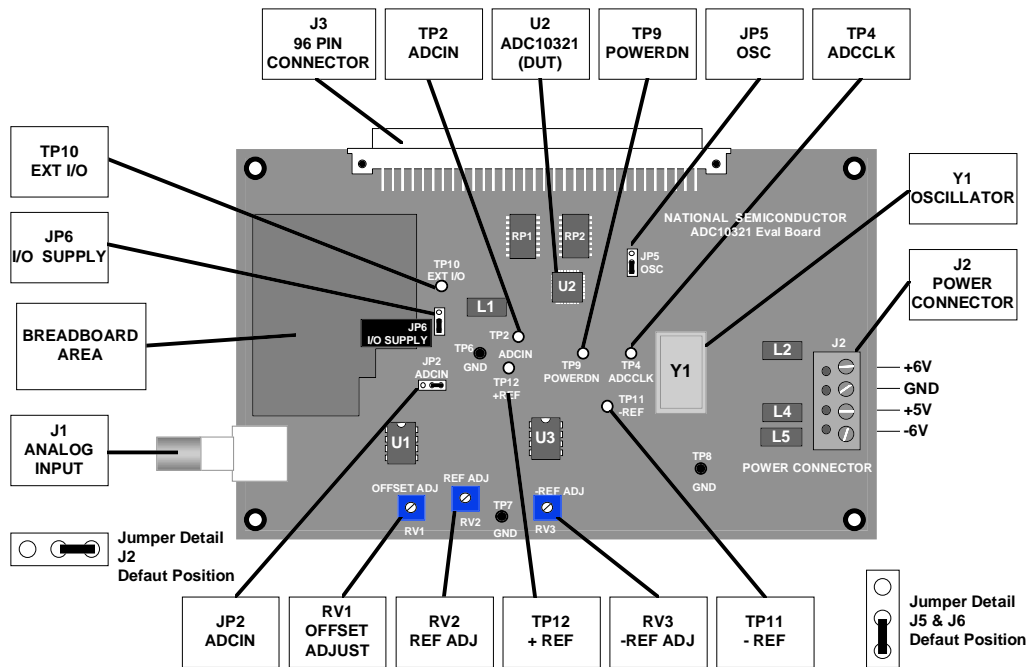
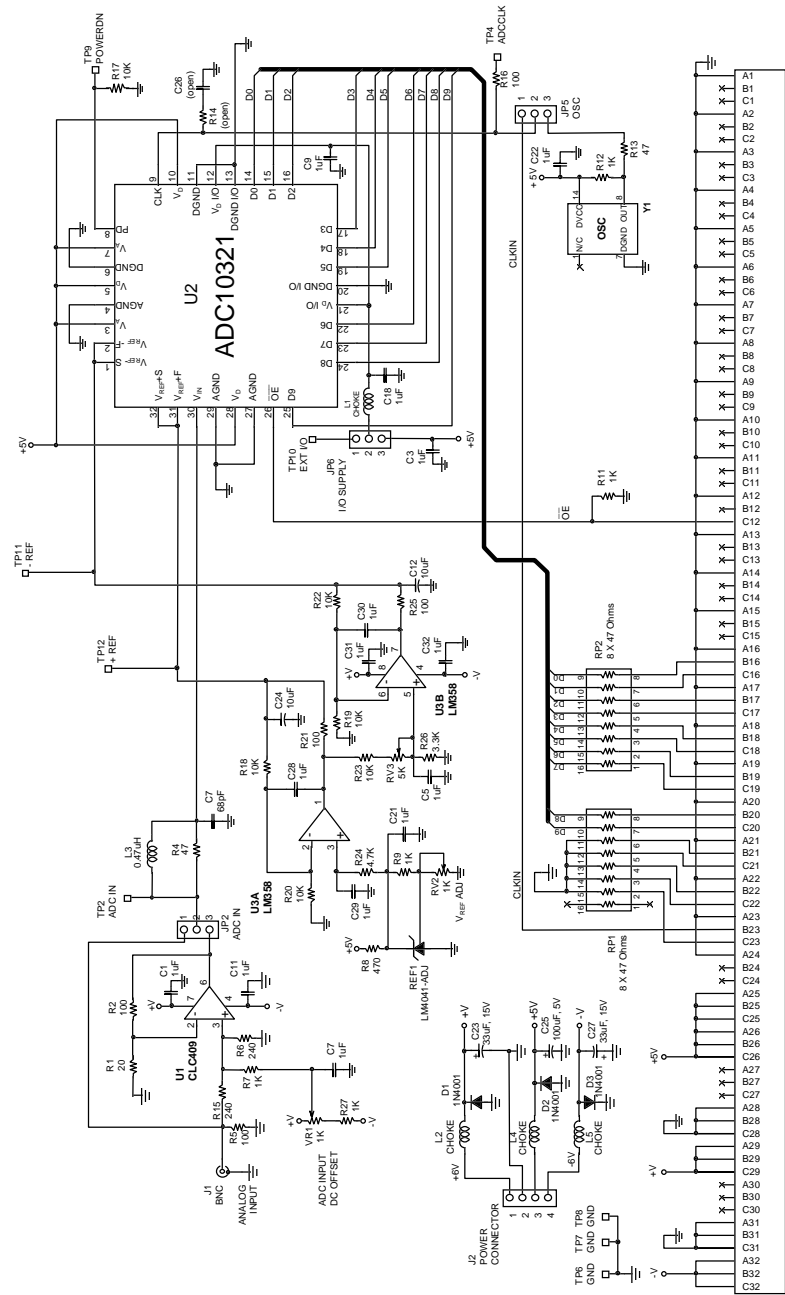

Figure 1. Component Locations. Jumpers are shown in default positions
Figure 2. Eval Board Schematic
The ADC10321 Evaluation Board can come as a bare board with a surface mounted ADC10321 and must be assembled, or can be purchased as a fully assembled board. Refer to Figure 1 for the location of major components, to Bill of Materials (Section 8.0) for component description and part types and to Figure 2 for the Evaluation Board schematic.
Once the board is assembled, the following will allow you to get the board up and running quickly. The digitized signal is available at pins B16 through B20 and C16 through C20 of J3. See the Evaluation Board schematic of Figure 2 for details.
1. Be sure that all jumpers are in their default positions, as shown in Figure 1.
Figure 1 shows the block diagram of the ADC10321 evaluation board. U2 is the device under test. This board supports the ADC10221, ADC10321 and the ADC10030 Analog-to-Digital Converters.
The digital data from the ADC10321 output, as well as a clock signal for this data, is available at the 96 pin DIN Connector J3 (See Figure 2). Resistors RP1 and RP2 are used to isolate from any circuits or instruments that the ADC10321 drives, helping to reduce the digital noise that gets back into the analog input.
Power for the ADC10321 can come from the +5V applied to Power Input Connector J2, or from an external +5V supply applied to TP10. Selection of the ADC10321 supply source is done with Jumper JP6. See Figure 1.
Follow these steps to operate the board in the Computer mode. Refer to Figure 1.